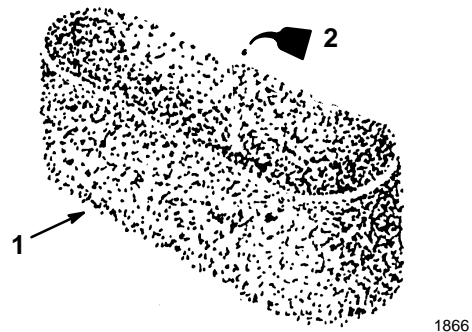

Figure 29
- C. Put one or two ounces of oil on the element (Fig. 29). Squeeze the element to distribute the oil.